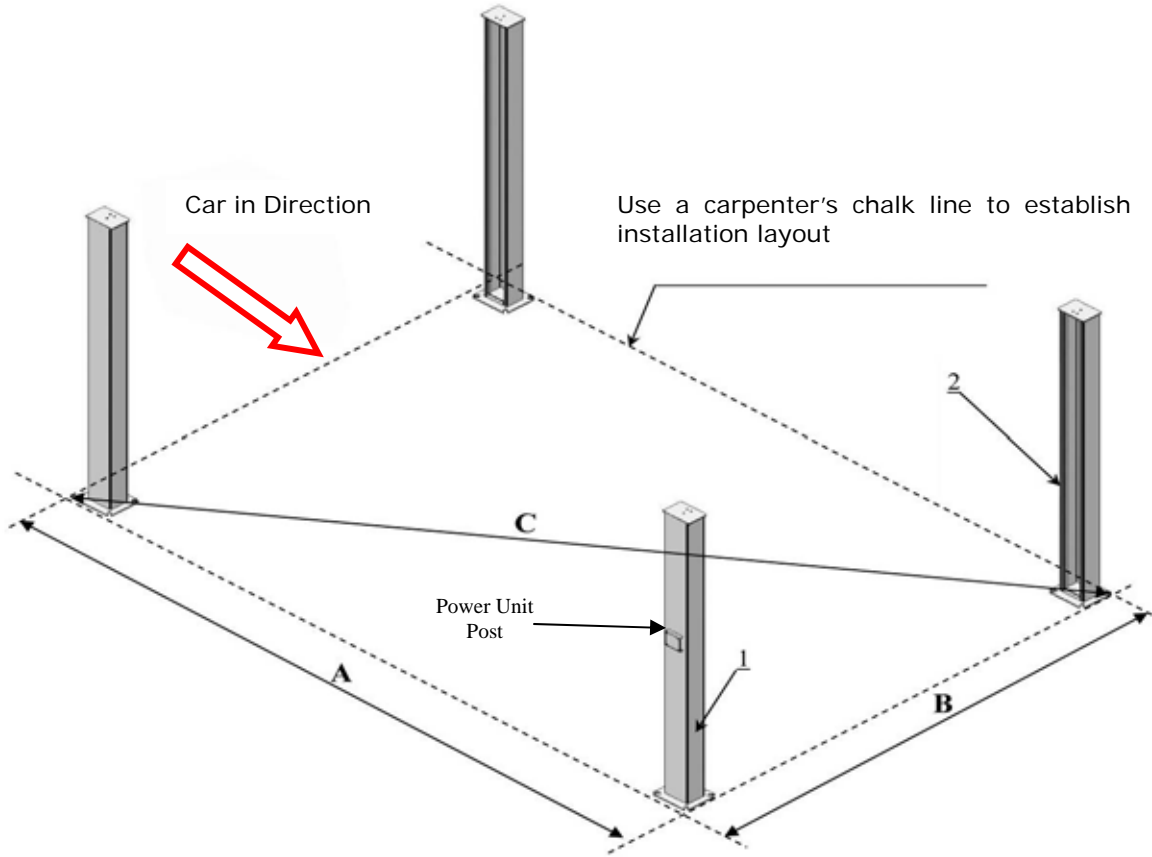

Fig. 10
C. Use a carpenter's chalk line to establish the installation layout per Table 1. Make sure the size is right and base is flat (see Fig. 10).